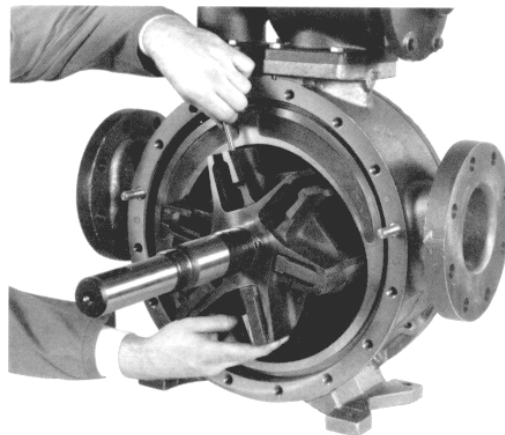

Figure 7
- b. Keep part of the rotor (13) outside the casing (12) such that the three bottom vanes (14) (rounded edge outward) can be inserted into the rotor slots and held in place while all three push rods (77) are inserted. See Figure 7.
- c. The rotor and shaft (13), with the three bottom vanes (14) installed, can now be **fully** inserted into the casing (12).
- d. Install the remaining vanes (14) in the top positions of the rotor (13).